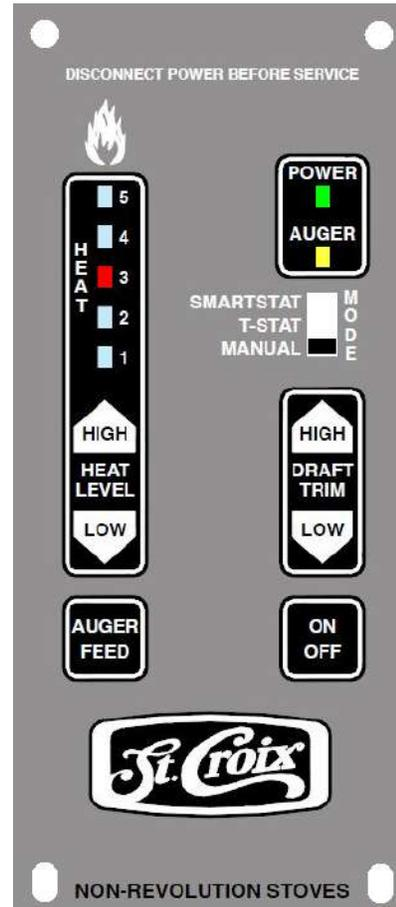

Figure 16
A closer look at the Control Board to the right in figure 16 will explain how the board works.
2. Push the On/Off button on the control board. (See figure 16 on page 27)